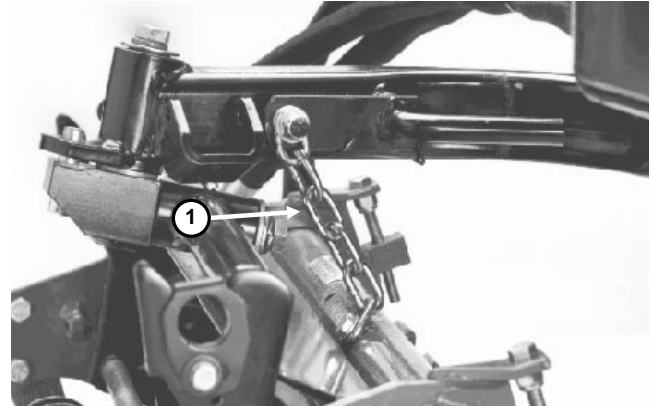

Figure 17
2. Disconnect chain from cross tube on each rear cutting unit (Fig. 17).